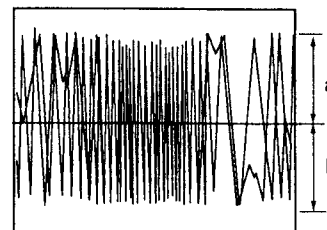

Fig. 3 Maximum TRK error.
6. Turn the screwdriver counterclockwise until the TRK waveform's amplitude reaches the first maximum from the null point. (See Fig. 3.)
1. Adjust VR602 so that the TRK error waveform amplitude's positive and negative level become equal. (See Fig. 3.)